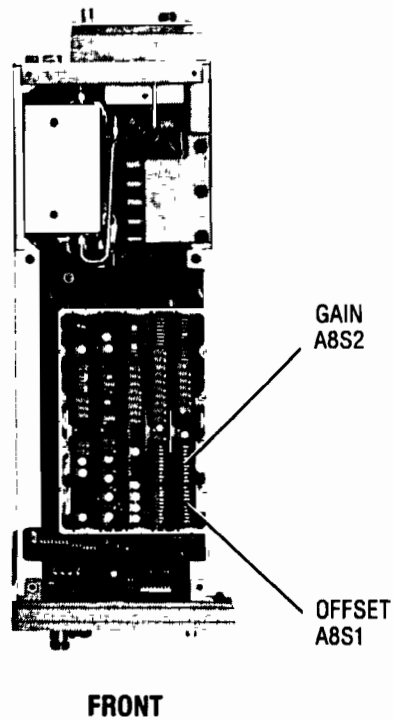
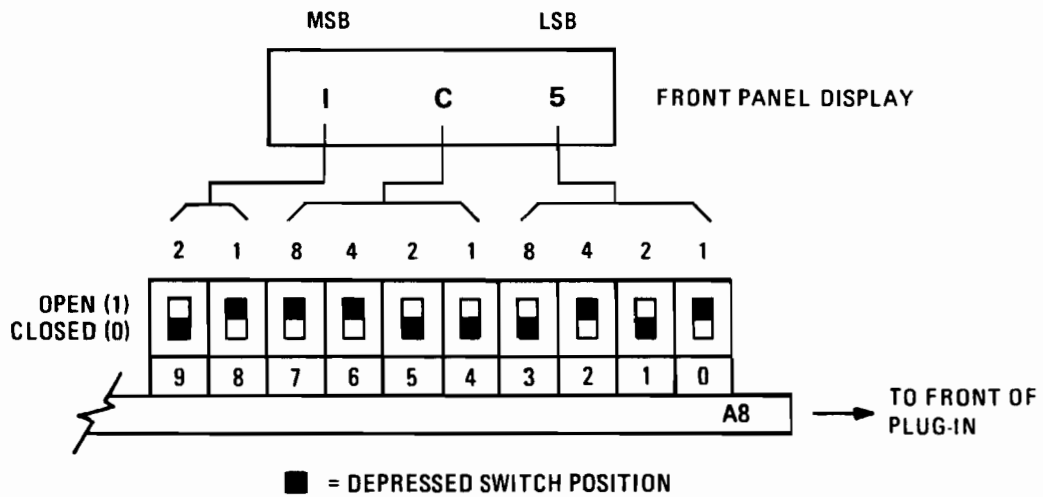

Figure 5-9. Frequency Calibration Adjustment Location
Figure 5-10. A8S1 and A8S2 Frequency Calibration Switch Configuration
8. Set switch A8S1 for the hexadecimal value displayed in the HP 83592A POWER display (See Table 8-4 in the service section). Refer to Figure 5-9 for the location of the frequency calibration switches. Refer to Figure 5-10 for an illustration of the calibration switch configuration.